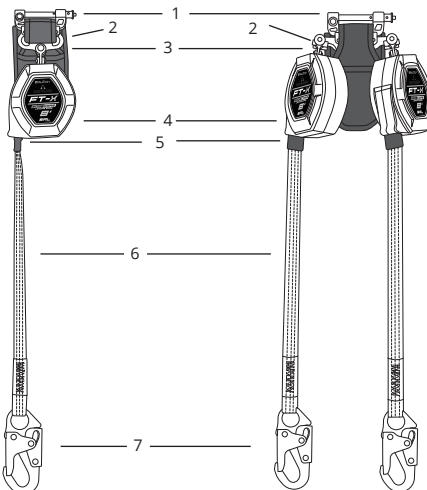

Figure 2 - About the FT-X™ EdgeCore™ Arc Flash Class 2 Leading Edge SRL-P
As shown in Figure 2 below, the FT-X EdgeCore Arc Flash has a nylon housing that contains a synthetic lifeline wound onto a spring tensioned drum. The FT-X EdgeCore Arc Flash lifeline is equipped with a lifeline stop and a leg-end connector. When the user is attached, the lifeline extends and retracts with the user movement, automatically maintaining taut lifeline. In a fall occurs, a centrifugal pawl system engages, stopping the lifeline payout. In a fall event, the SRL-FBH Connector will break away from the Shear Connector, and the integral Energy Absorber (EA) will deploy, gradually slowing and arresting the fall.